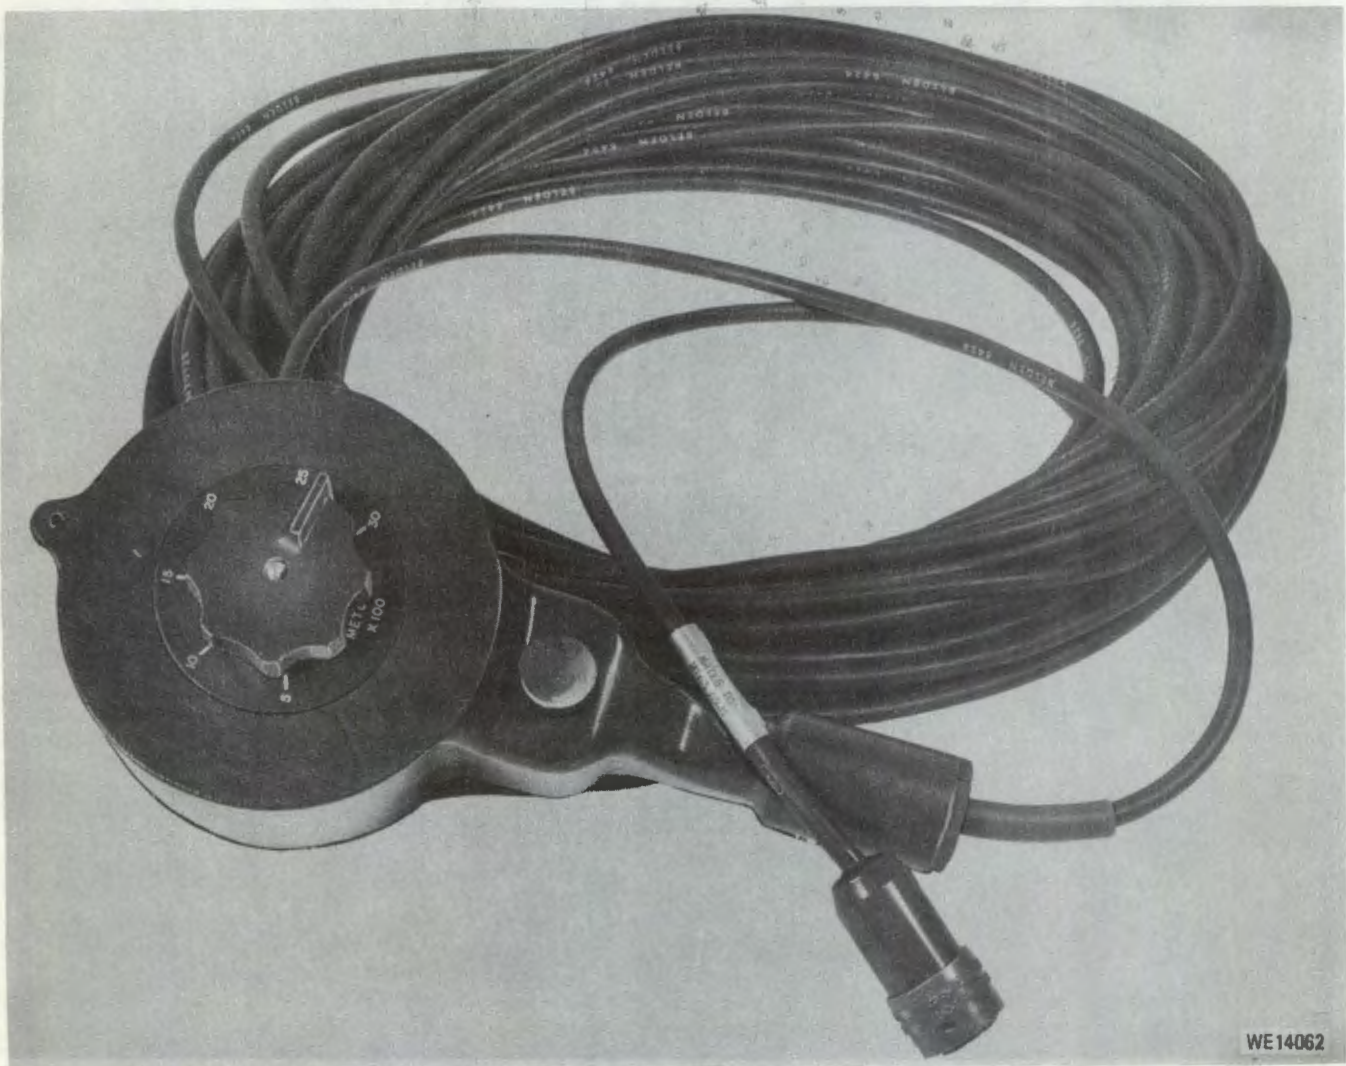

Figure 1-19. External range control assembly.
g. *External Range Control Assembly.* The external range control assembly (fig. 1-19) allows an operator outside of the vehicle to insert range information into the XM163 system when used in the EXT mode. The assembly is connected to the system through the external range control assembly receptacles (one interior and one exterior) located on the right rear of the vehicle.